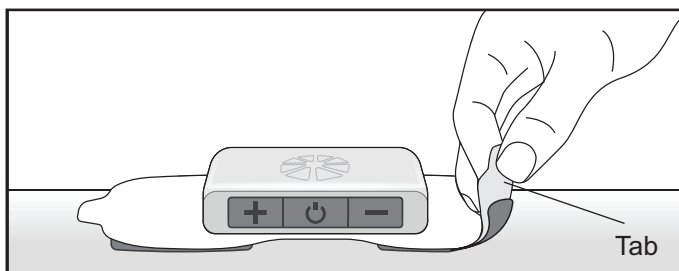

Figure 7-20: Grasp the tab on the Gel Electrode to remove.
2. Grasp the tab on the Gel Electrode and gently pull the electrode away from the skin. See Figure 7-20.
⚠ WARNING: Do not grasp the gel pads on the back of the electrode. See Figure 7-20. If stimulation is not turned off and the gel pads are touched, electrical shock could occur.